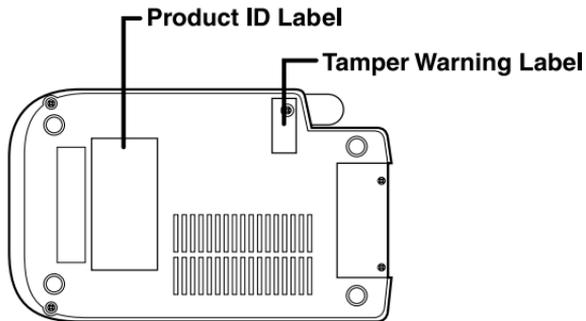

Figure 17 Information Labels on Bottom of Terminal
2. Check if the Tamper Warning label on the terminal base has been breached or removed (see Figure 17 on page 37). If the case has been opened by an unauthorized party, key data that is necessary to process PIN-based transactions using the internal PIN pad may have been erased.
1. Obtain the Product ID information, including the unit Model and Part Number, from the label that is affixed to the bottom of the Omni 3210 terminal (see Figure 17). For example, “Omni 3210” and “P092-501-01”.